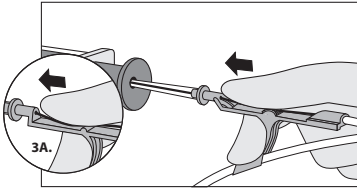

Figure 3
- If using Arrow GlideWheel Advancer, advance guidewire through the Arrow Raulerson Syringe or through the introducer needle by pushing advancer wheel and guidewire forward (refer to Figure 3). Continue until guidewire reaches desired depth.